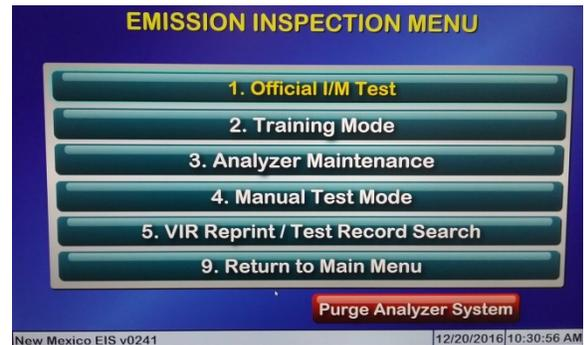

Figure 8 Emissions Inspection Menu
6.4 Emissions Inspection Menu (Figure 8)